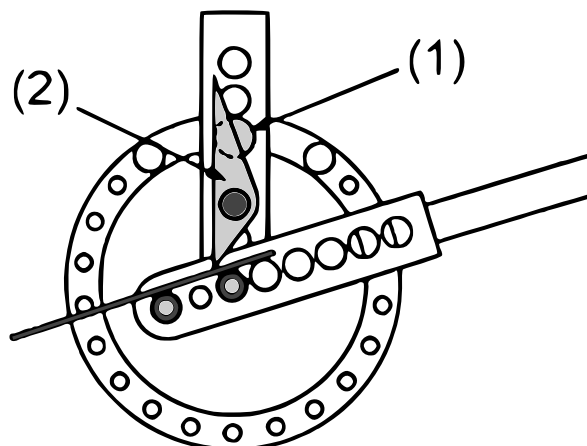

Figure 6: Assembly for simple angle bending
1. Mount the supporting bolt **(13)** and angle bending block **(18)** to the bending support **(4)** as shown in Fig. 6, making sure that the block supporting bolt is mounted as near as possible to the angle bending block.